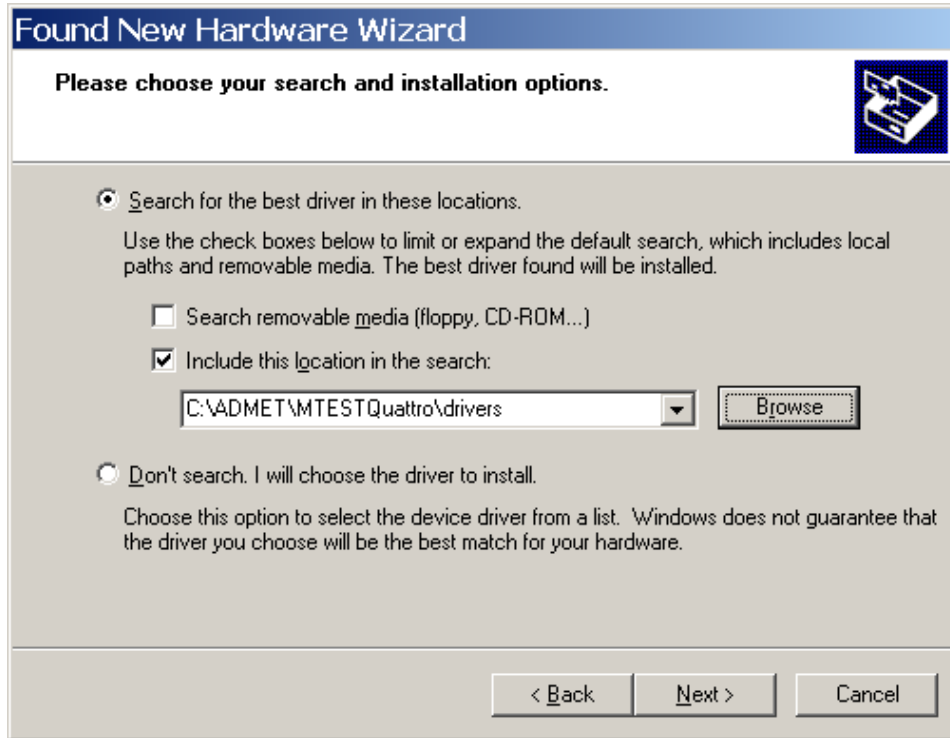
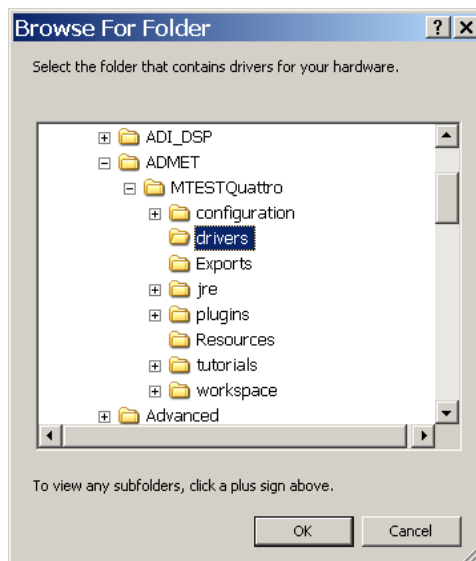

Figure 3: Found New Hardware Wizard
Figure 4: Browse For Folder
2.3.4 A new window will be displayed (Figure 3: Found New Hardware Wizard). Select the “Search for the best driver in these locations” option and check the “Include this location in the search” check box as shown. Either enter the folder where the drivers are stored in the edit box as shown, or click the Browse button to navigate to the driver folder. If Browse was chosen, navigate to the location shown in Figure 4: Browse For Folder.